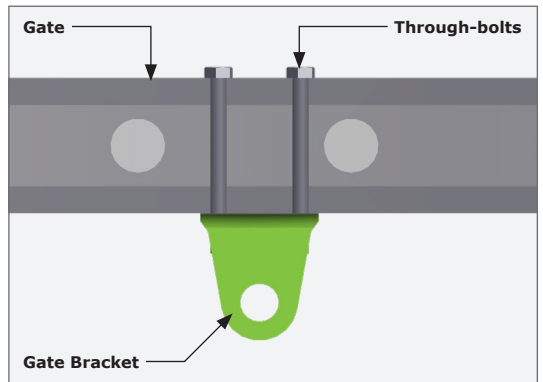

FIGURE 17
Figure 17 illustrates the values corresponding to the **Inward-Opening** Gate Installation Tables.
1. Refer to Figure 17 Above.